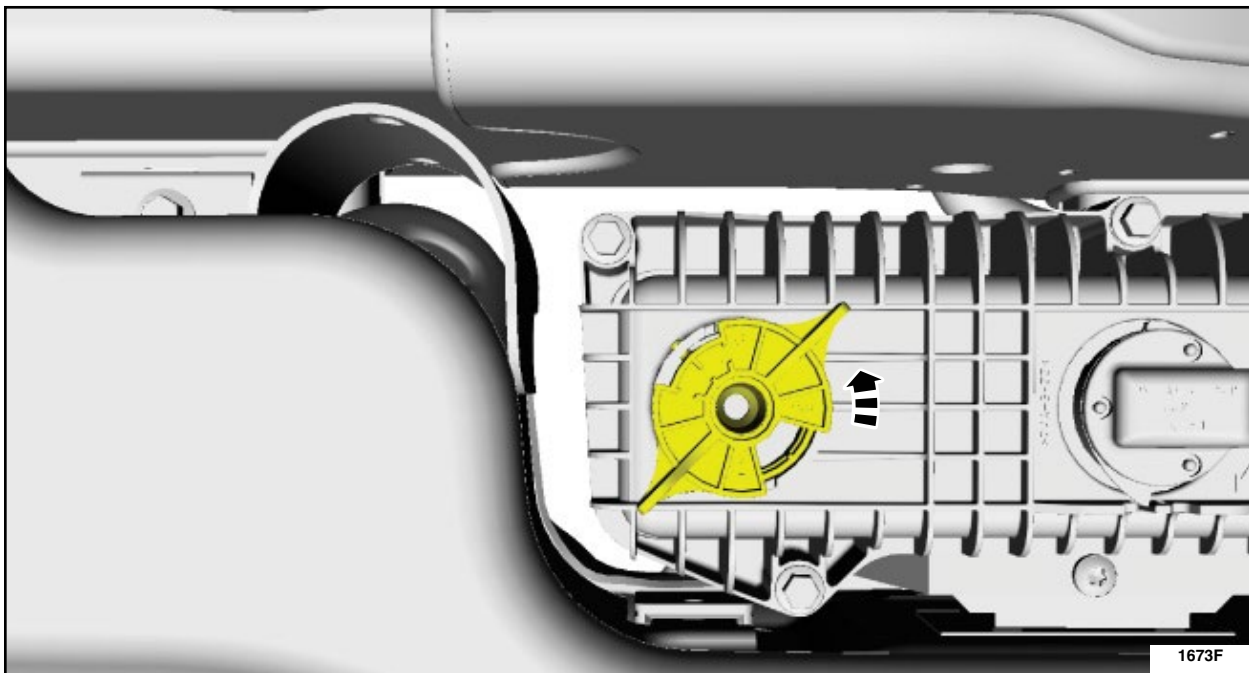

FIGURE 3
6. Loosen the fuel drain plug. See Figure 3.